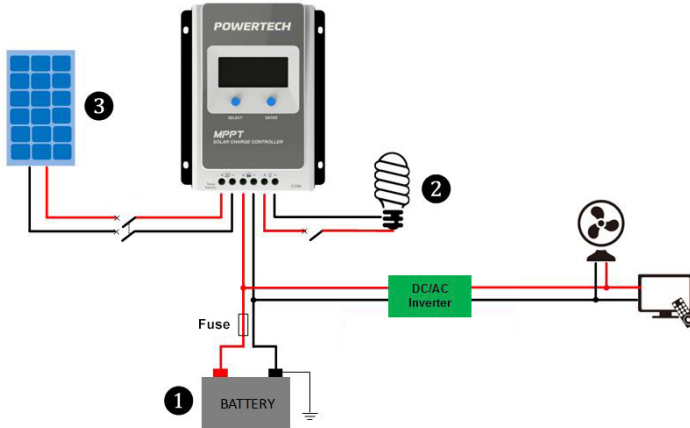

Figure 2-2 Wiring Diagram
Step 2: Connect the system in the order of battery - load - PV array following Figure 2-2, "Schematic Wiring Diagram," and disconnect the system in the reverse order.